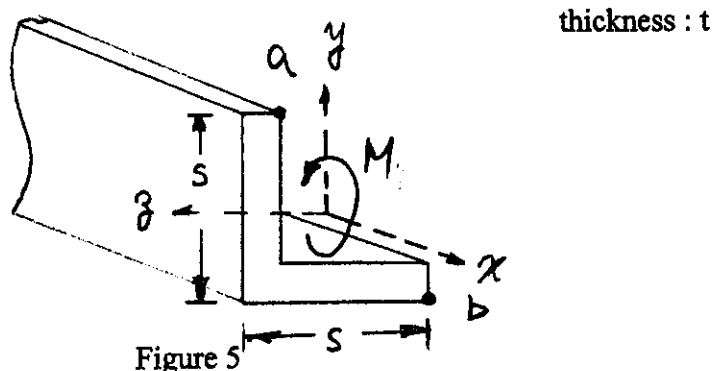

Figure 5
6. If the cross section of the beam is unsymmetric, as shown in the figure 5, show the procedures to calculate the normal stress σ_x in the corner points a and b. The couple moment is M , the Young's modulus is E and the dimension of the shape are shown in the figure.(10%)